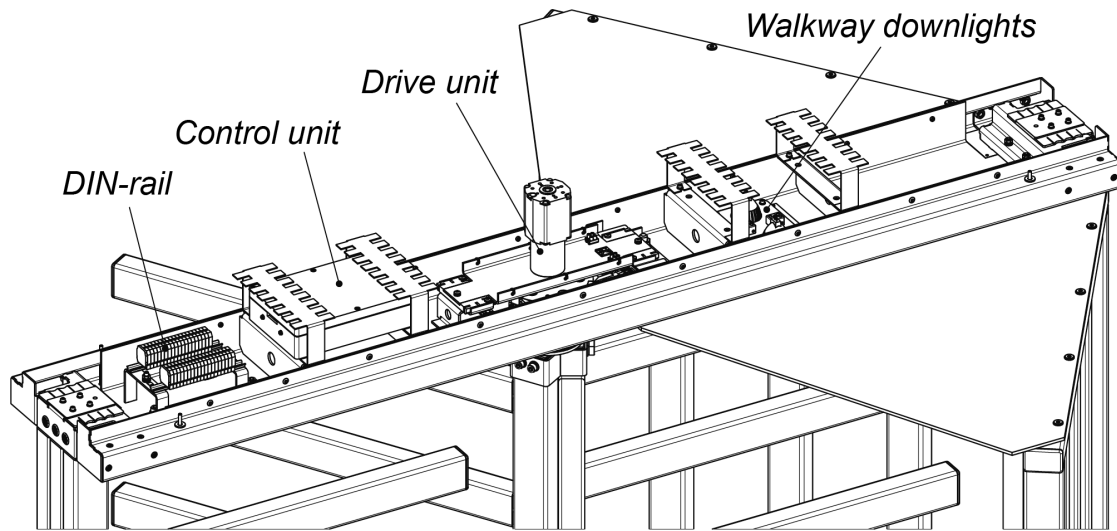

Figure 3. Top channel with cover off RTD-15.1 model
The **control unit** (the CU) is designed as a separate device in a plastic case and performs control over the turnstile in accordance with the algorithm and received control commands (Fig. 3 and 4). All cables are wired to the DIN-rail through the lower hole in the barrier section (5) from the side of the flange, then up the post into the top channel (Fig. 2, 3 and 4).